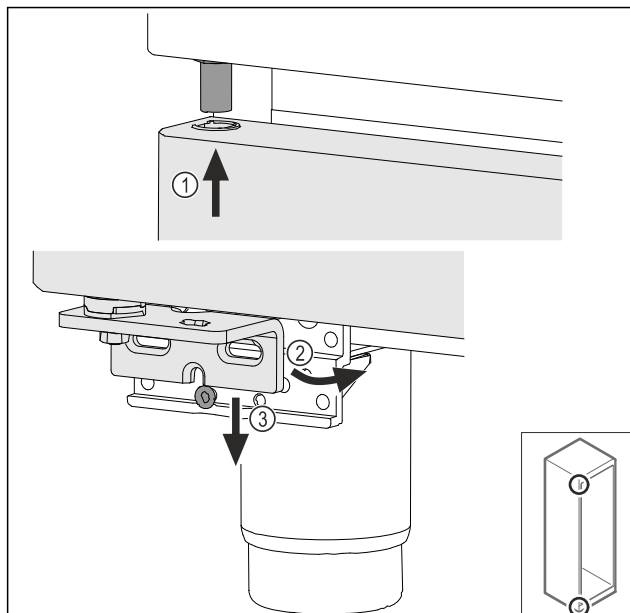

Fig. 69
- Insert the door slightly tilted at the top Fig. 69 (1), align the door straight Fig. 69 (2) and place it on the bottom of the swap bearing block screw Fig. 69 (3).